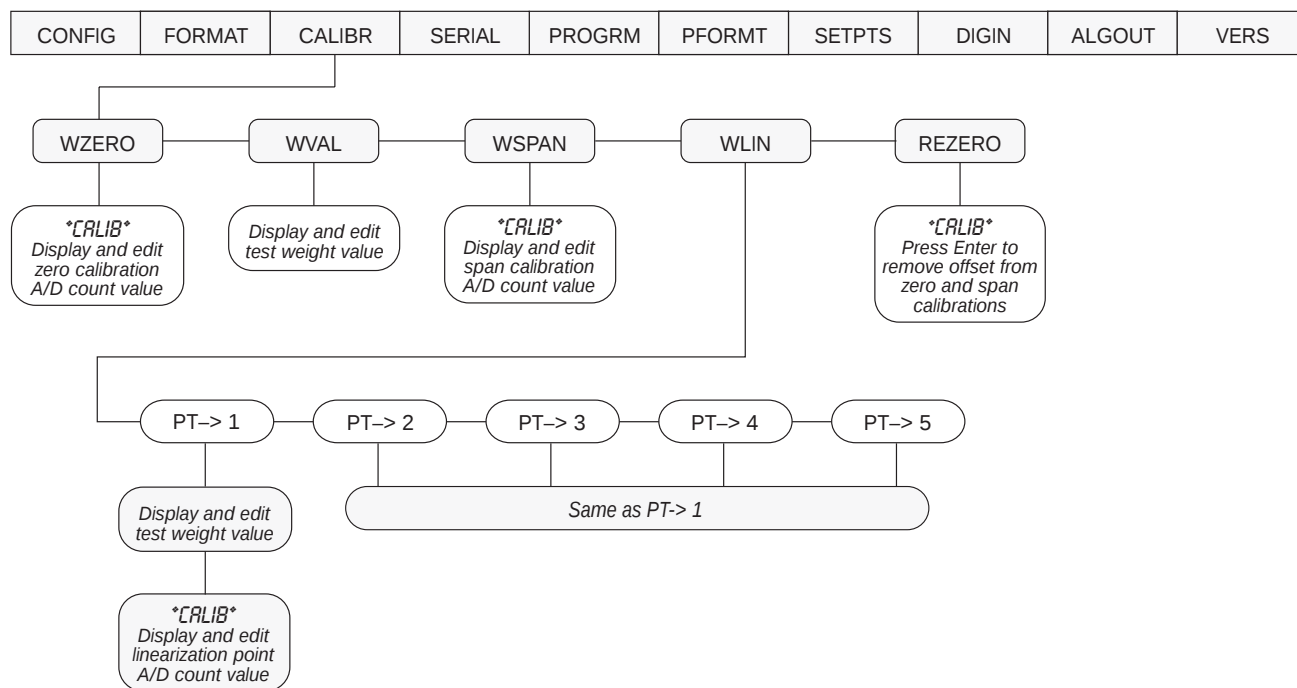

Figure 4-1. Calibration (CALIBR) Menu
2. Press $\blacktriangleright$ until the display reads *CALIBR* (see Figure 4-1). Press ∇ to go to zero calibration (*WZERO*).